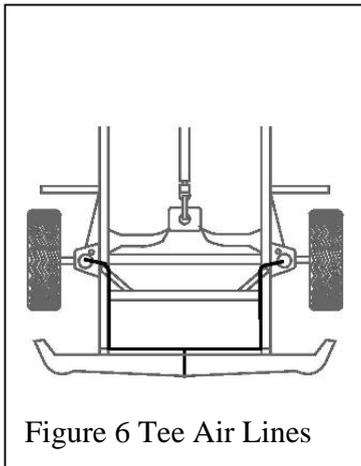

Figure 6 Tee Air Lines
- A. Find desired tee location on the frame rail or radiator core support bracket (**Figure 6**)